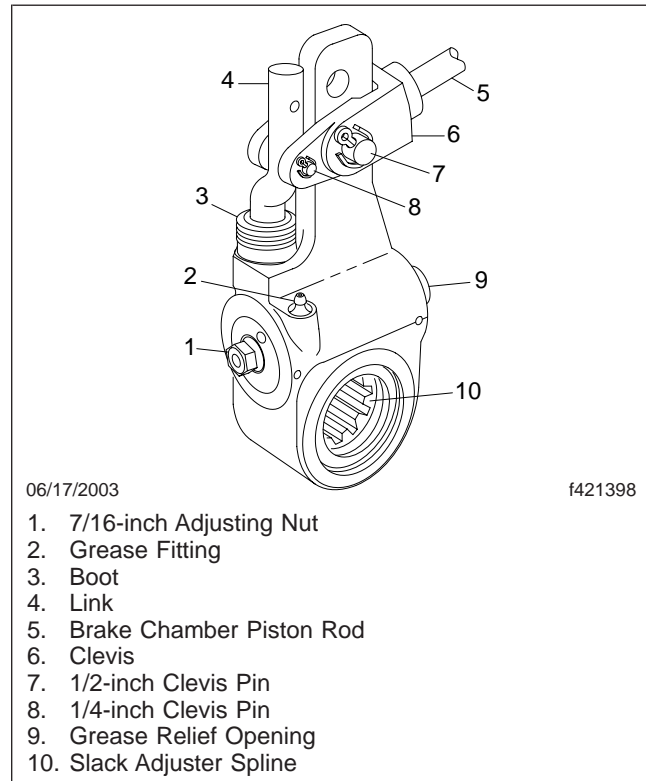
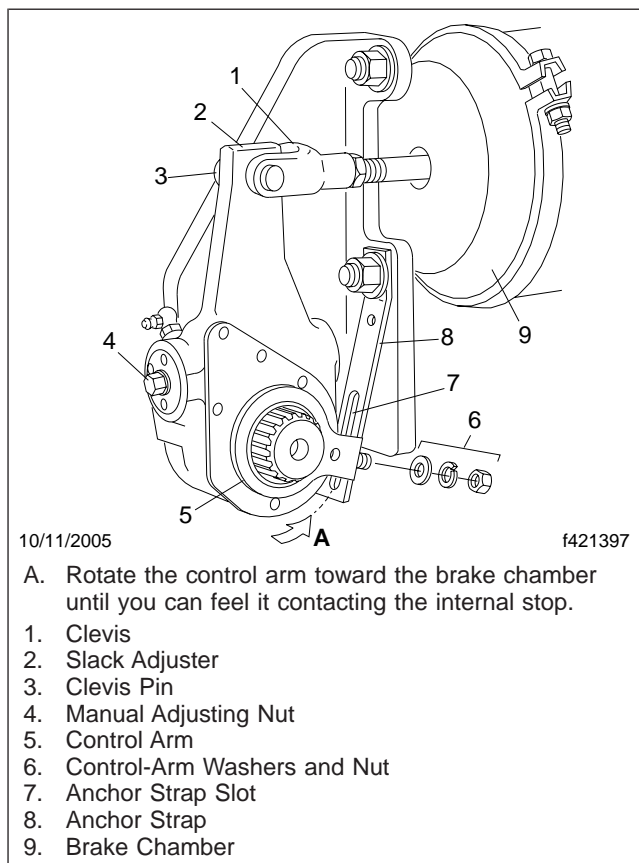
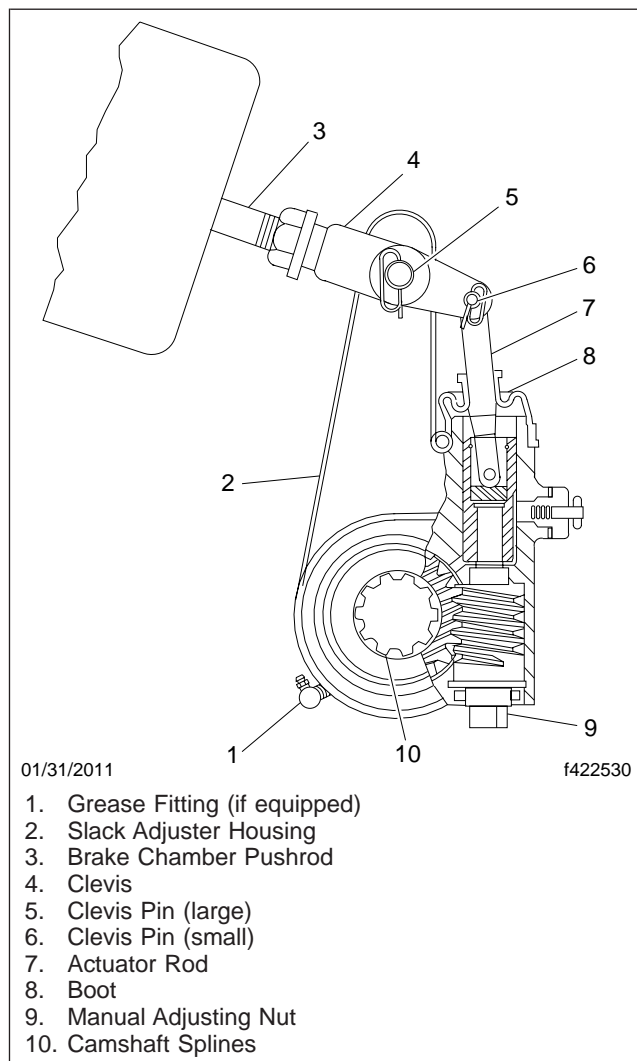

Fig. 11.1, Gunite Automatic Slack Adjuster
Fig. 11.2, Haldex Automatic Slack Adjuster
Fig. 11.3, Meritor Automatic Slack Adjuster
2. Inspect slack adjusters for signs of damage. See Fig. 11.1, Fig. 11.2, or Fig. 11.3.